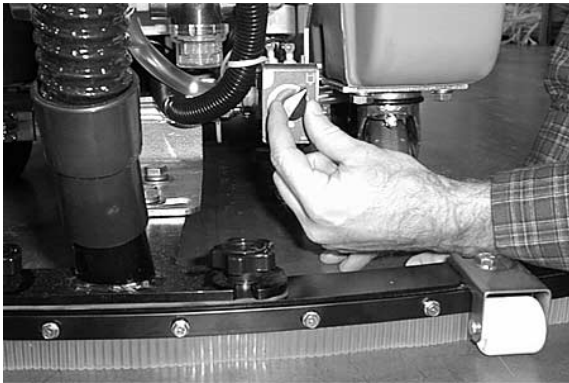

FIG. 17
1. Observe amount of solution flow on floor. To increase or decrease water flow, adjust solution control knob located at rear of machine (*Figure 17*).